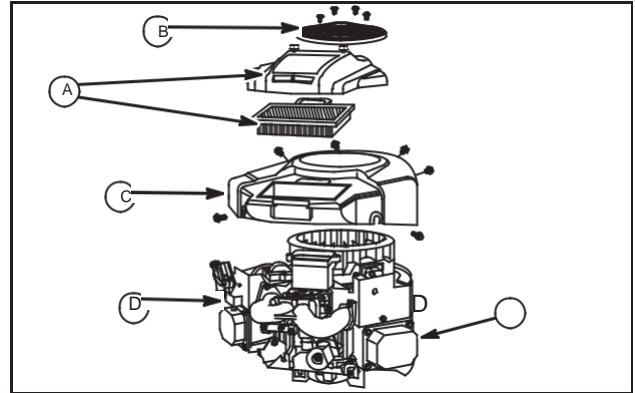

Fig. 1 – Remove Blower Housing
1. Remove the following parts from engine, Fig. 1: